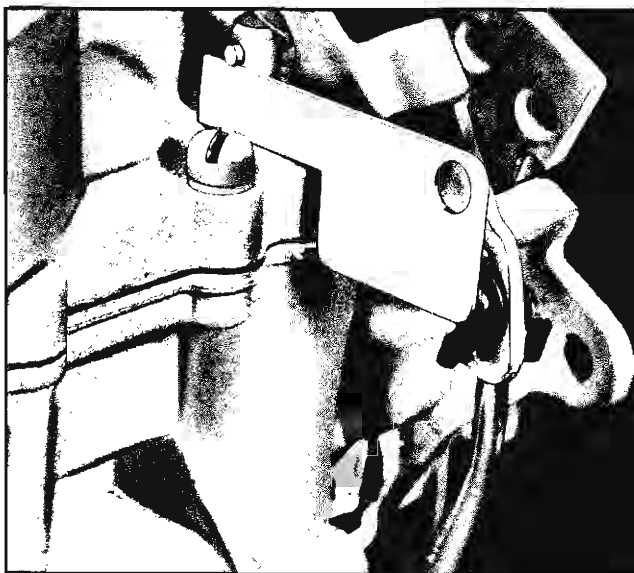

Fig. 6B-123 Checking Pump Adjustment
7. Install air horn attaching screws (Fig. 6B-121).